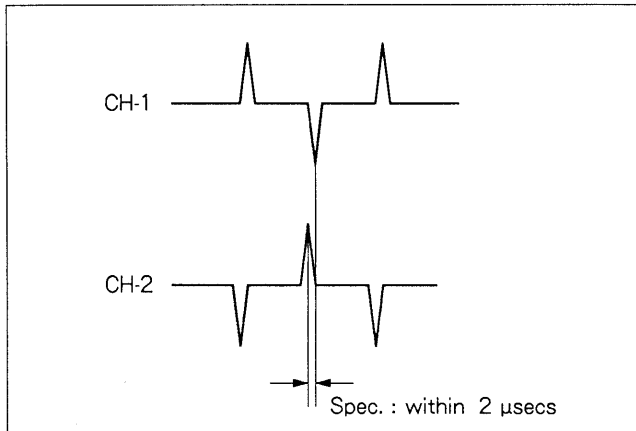

Fig. 9-7-3. Audio REC Head Azimuth Check
- (1) Thread an alignment tape FR2-1 and play it back.
- (2) Set the time base of oscilloscope to 1 μ secs.
- (3) Check that the phase difference between CH-1 (DA. CH-1) and CH-2 (DA. CH-8) is within the specification shown in Fig. 9-7-3.